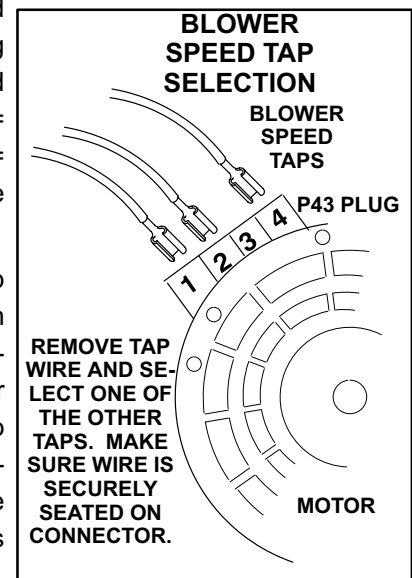

FIGURE 12
- 4 - Remove wire tap connector from motor. Select connector location for new speed (refer to unit wiring diagram). Insert wire terminal until it is securely in place. See figure 12.